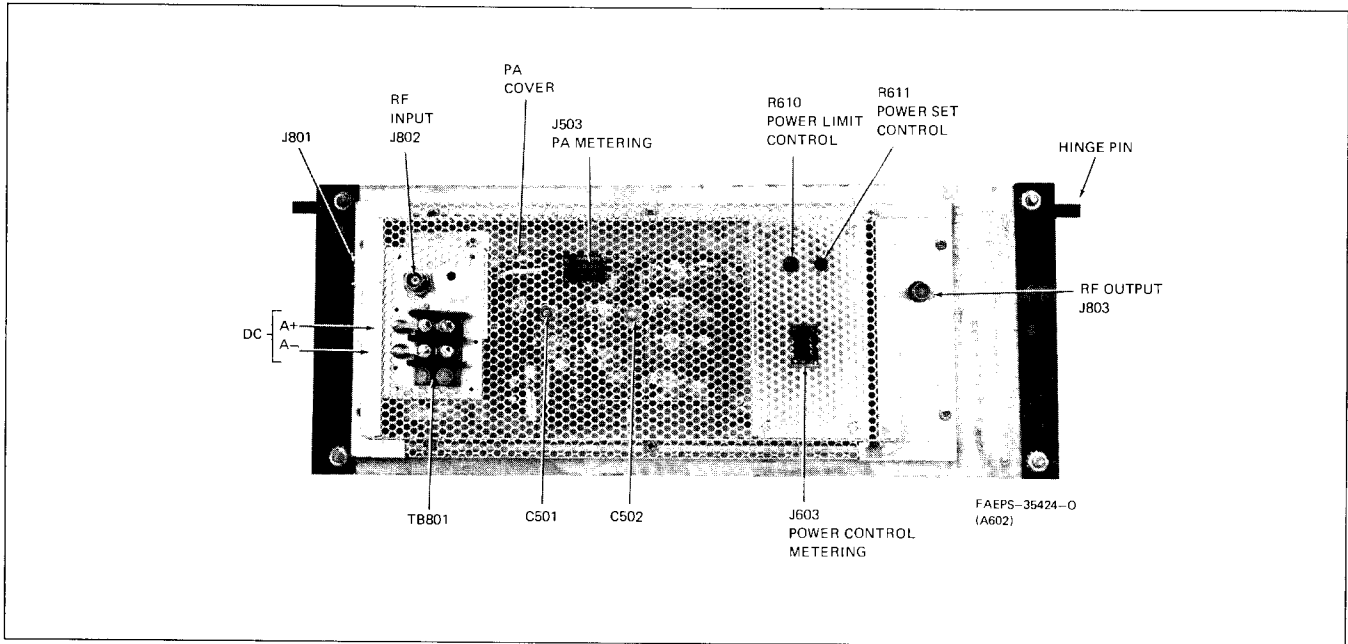

Figure 4. Power Amplifier Detail of Continuous Duty Station
**5.2.2.2** To gain access to the power control board for servicing, remove the 4 screws holding the power control bracket (refer to Figure 4).